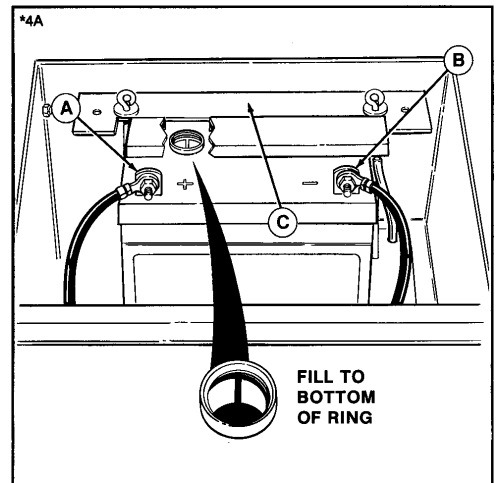

Figure 21. Battery
3. Fluid must be even with split ring full mark (figure 21). If not, add distilled water.
1. Disconnect the cables from the battery, negative cable first (figure 21).
5. Reinstall battery and clamp (figure 21).
1. Replace battery, if removed. Be sure terminals and clamps are clean (figure 21).